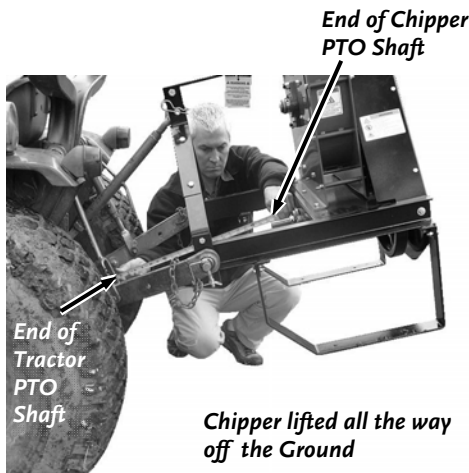

Figure 16
3. Raise the Chipper up as far as it will go. Measure from the end of the Tractor PTO Shaft to the end of the Chipper PTO Shaft and record this dimension in the "FULLY RAISED" row of the table above (**Figure 16**).